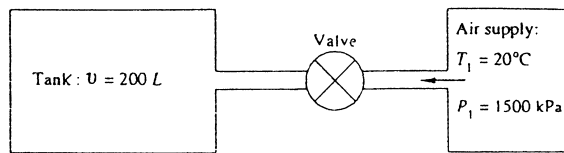

Fig. P3.143
3.143 The insulated tank in Fig. P3.143 is to be filled from a high-pressure air supply. Initial conditions in the tank are $T = 20^\circ\text{C}$ and $p = 200 \text{ kPa}$. When the valve is opened, the initial mass flow rate into the tank is 0.013 kg/s . Assuming an ideal gas, estimate the initial rate of temperature rise of the air in the tank.